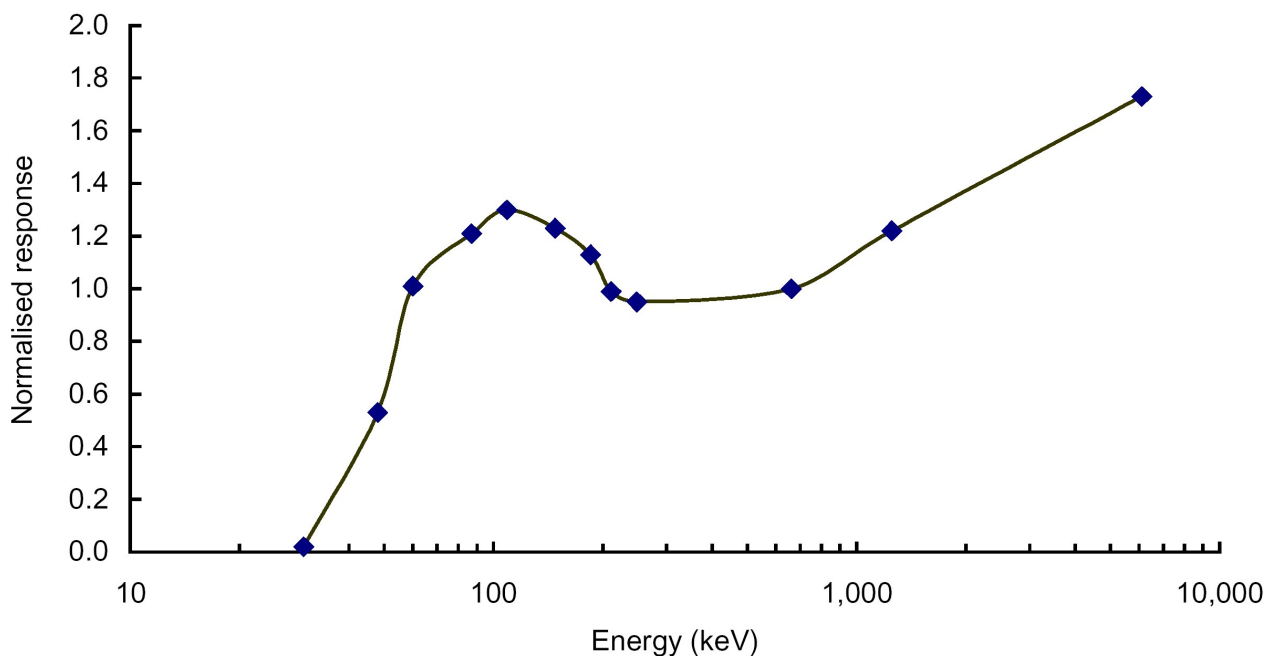

FIGURE C1 X and gamma air kerma response of a ZP1221/01 energy compensated GM detector
- The response rises sharply above 1 MeV. See Figure C1. This can cause problems in the presence of very high energy gamma radiation, such as the 6 to 7 MeV radiation from ^{16}N .